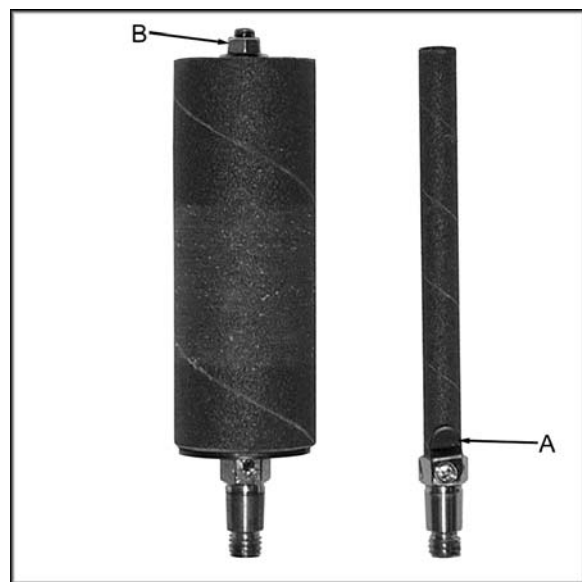

Figure 7
1. Loosen the clamp (A, Figure 7) with a cross point screwdriver.
1. Loosen the nut (B, Figure 7) with the provided wrench.